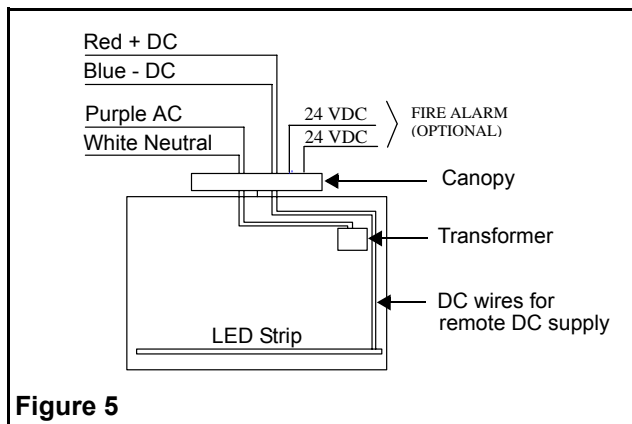

Figure 5
2. Connect the white lead to neutral and the purple lead to the AC line voltage (the input is universal 110 to 347 VAC). See fig. 5. For AC models used with DC remote power, connect the red lead to positive, and the blue lead to the negative of the remote DC input.